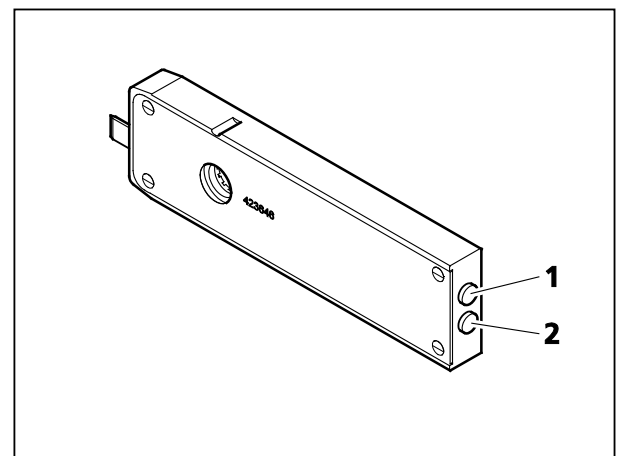

Fig. 69 FL attenuator, motorized
- The FL attenuator has six positions which can be selected in forward or reverse order by pressing buttons (Fig. 69/1) and (Fig. 69/2)